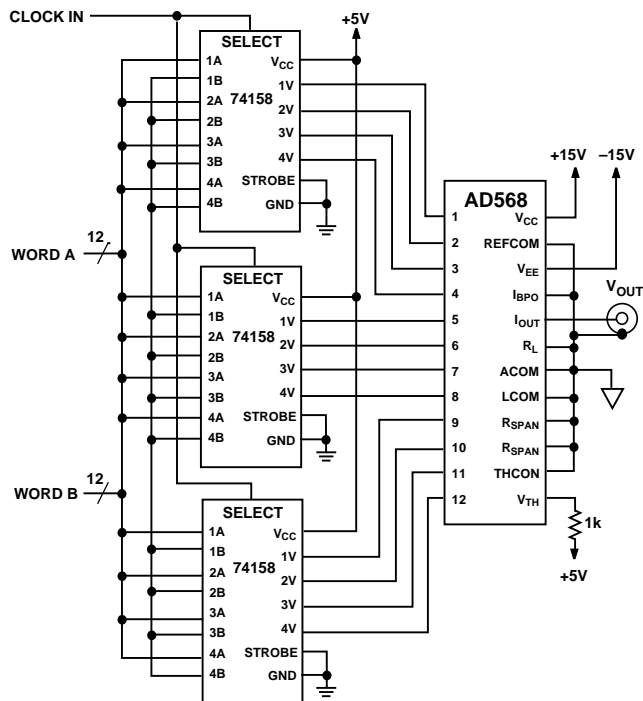
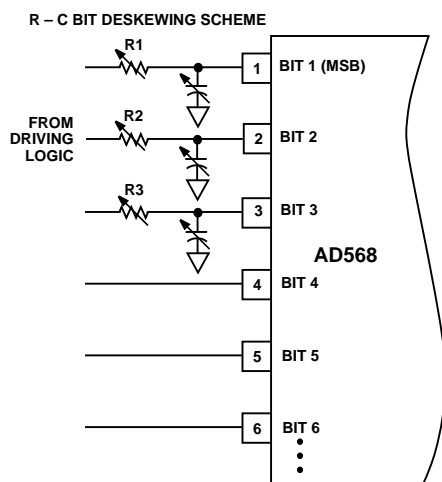

Figure 13. Test Setup for Glitch Impulse and Settling Time Measurements
Figure 15. R-C Bit Deskewing Scheme
- ¹All values typical, taken in rest fixture diagrammed in Figure 13.
¹Measurements were made using a modified version of the fixture shown in Figure 13, with resistors and capacitors placed as shown in Figure 15. Resistance and capacitance values were set to zero except as noted.
As Figure 15 indicates, in some cases it may prove useful to place a few hundred ohms of series resistance in the input line to enhance the delay effect. This approach also helps to reduce some of the digital feedthrough glitch, as the higher frequency spectral components are being filtered out of the most significant bits' digital inputs.
¹Measurements made on a modified version of the circuit shown in Figure 13, with a 1 V full scale.